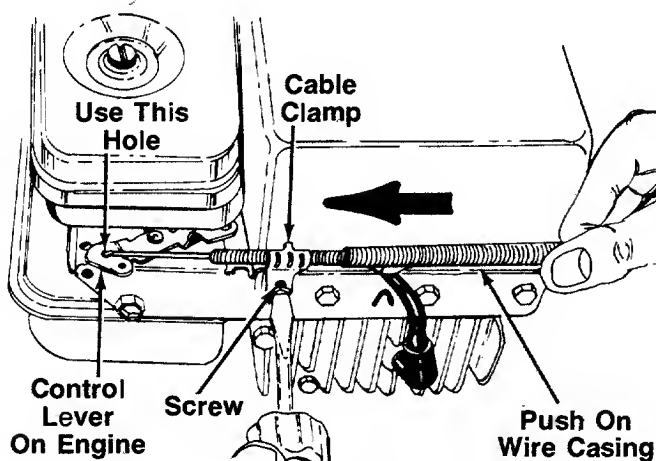

FIGURE 5.—Briggs and Stratton Engine
2. The throttle control cable is attached to the upper handle. Route the throttle control cable under the lower handle and inside the handle mounting bracket. Hook the "Z" end of the throttle control cable into the arm on the control lever on the engine which has two holes, using the **outside** hole as shown in figure 5.
3. Using a 5/16" wrench or nutdriver, remove the screw on the cable clamp shown in figure 5. Slip the control casing under the clamp. Replace the screw, but do not tighten (cable must still move freely beneath the clamp).
4. Place the throttle control lever on the engine in the full open position by pushing it toward outside of the unit. Push the wire casing on the throttle control cable toward the control lever on the engine as shown in figure 5 as you tighten the screw on the cable clamp.
The throttle control wire assembly can be adjusted if necessary. Loosen the screw on the cable clamp shown in figure 5 or 6. Adjust as instructed in step 4 of "Attaching the Throttle Control Cable" in Assembly Instructions.